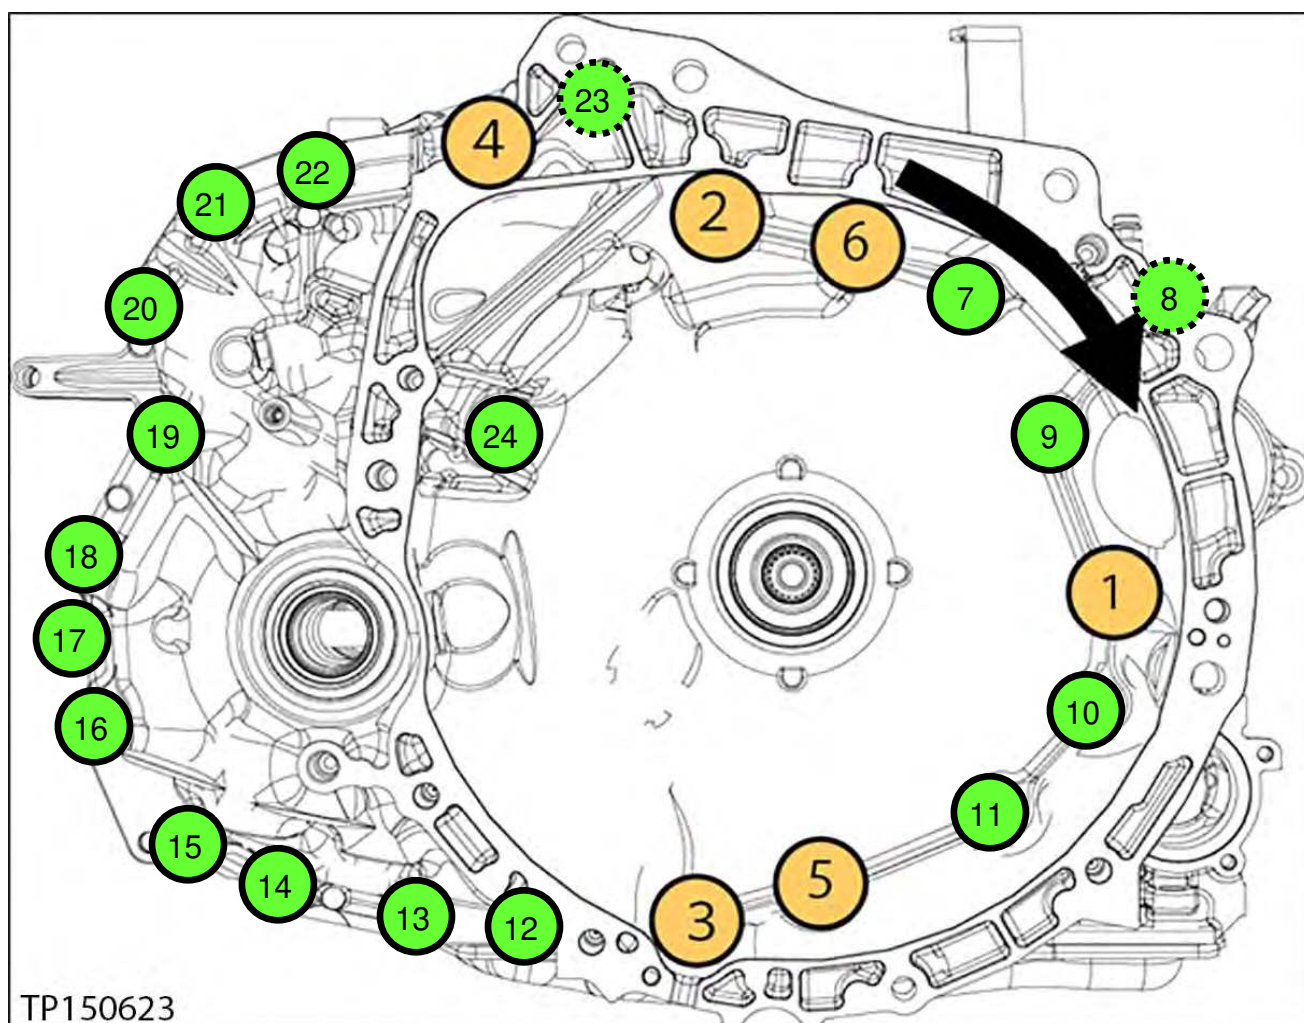

Figure 16I
15. Install the torque converter housing onto the CVT case (see Figure 16I for torque sequence):
- Install new bolts (24).
- a. Torque the first six (6) bolts with symbol  in numbered sequence (see below).
IMPORTANT: Make sure to torque the bolts in the sequence shown (Figure 16I).